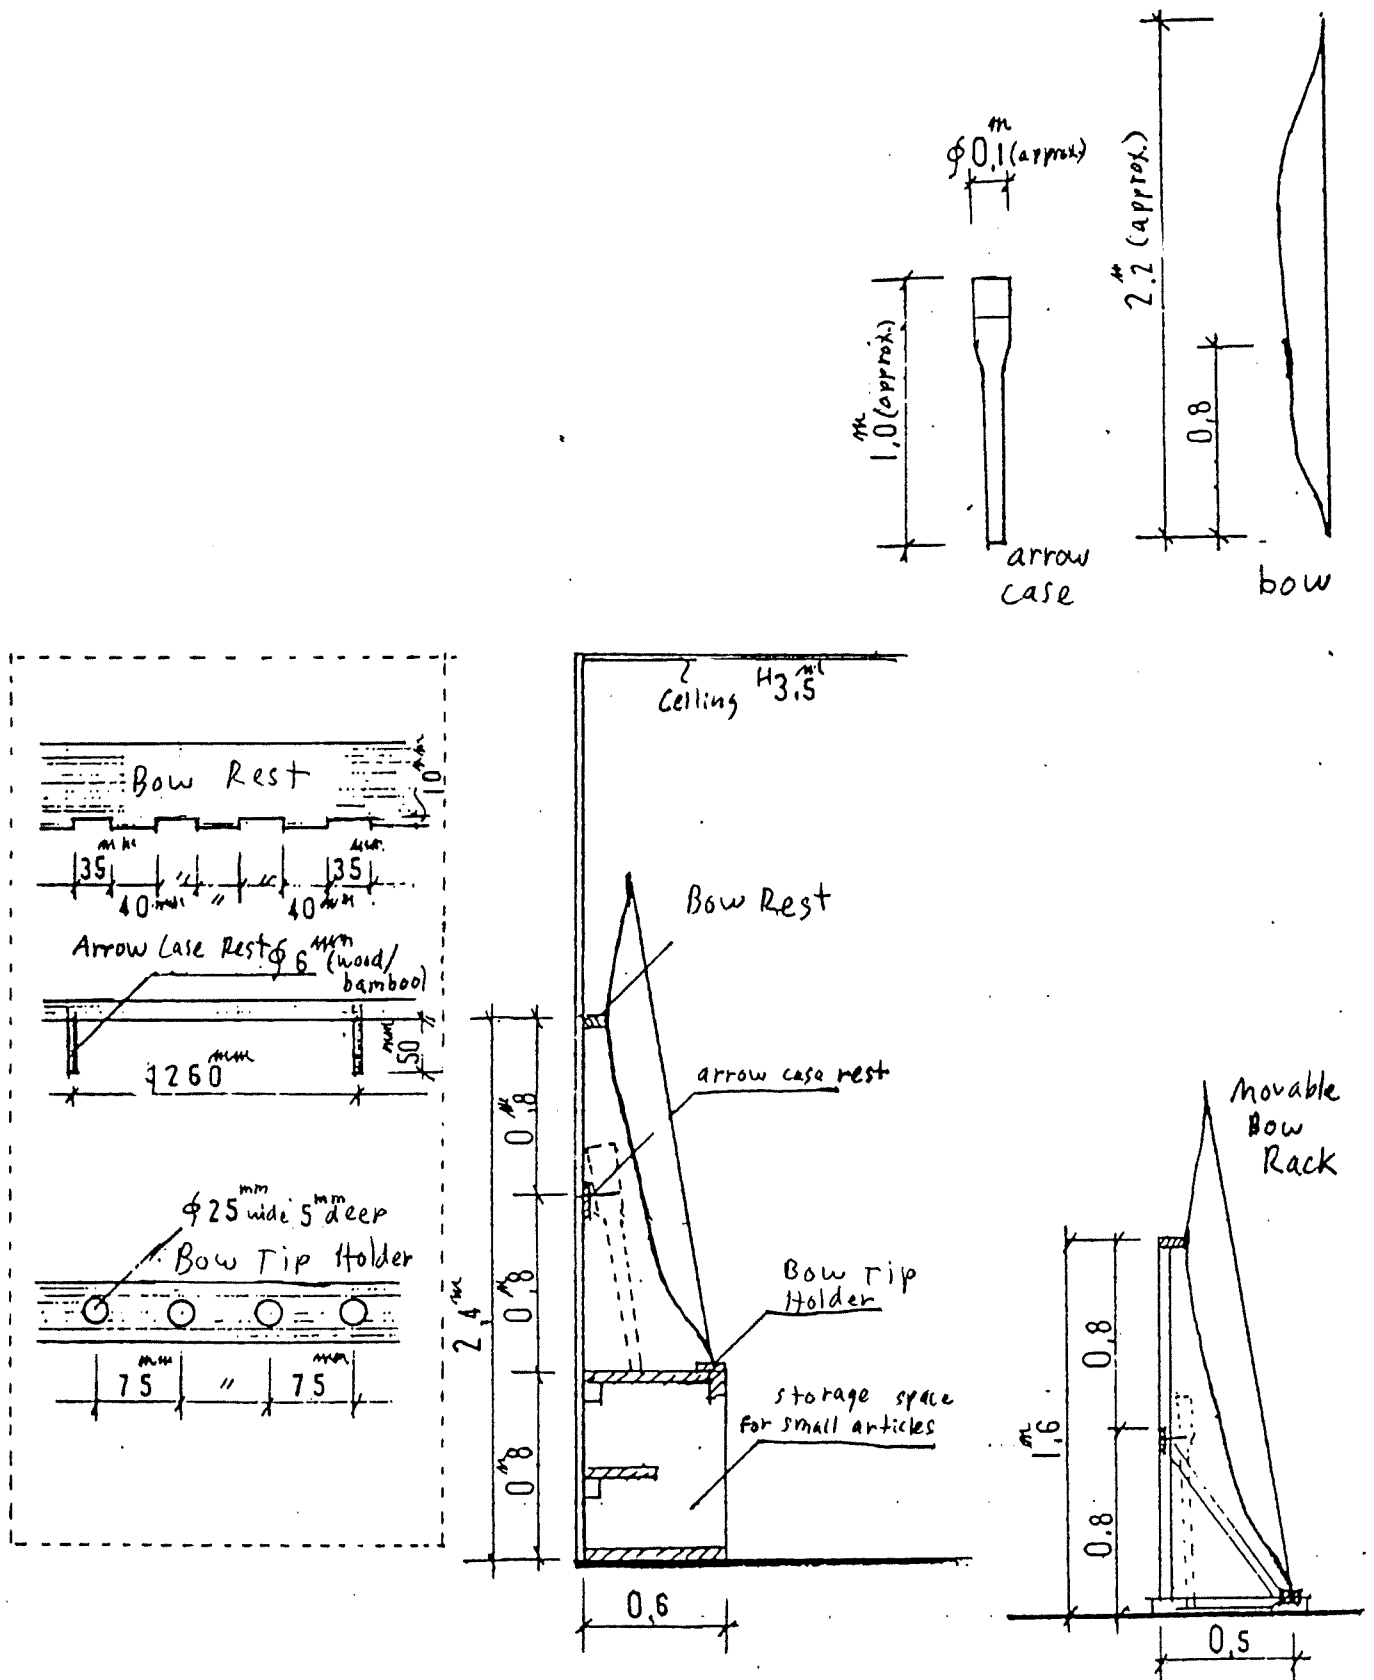

Figure 7 Dimensions Of Kyudo Equipment And Storage Facilities
4. In order to easily put in and take out the bows, which are about 2.3 meters long, the height of the locker should be at least 3.5 meters and the height of the door opening should be at least 2.5 meters. See Figure 7